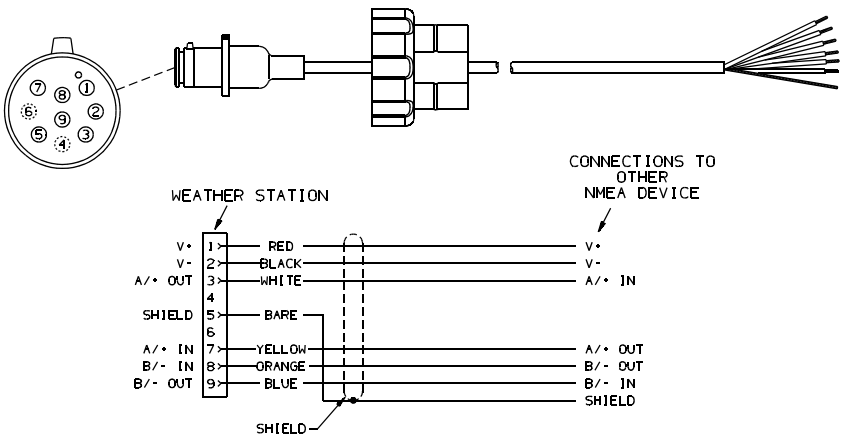

Figure 15. Wiring diagram to connect to an NMEA display
- **No connector**—If your WeatherStation instrument does not have a connector on the display end, it *must* be hard wired. Refer to the owner's manual that came with your display and connect the colored wires as shown in the table below and Figure 15.
5. Connect the wires to the display (see Figure 15).